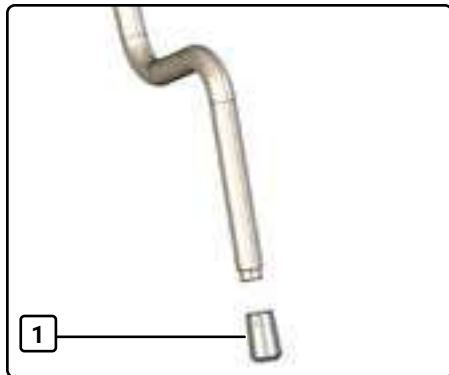

Fig. 12 Steam wand nozzle, removed
2. Unscrew the nozzle (1, Fig. 12) of the steam wand by hand and place it to the side.